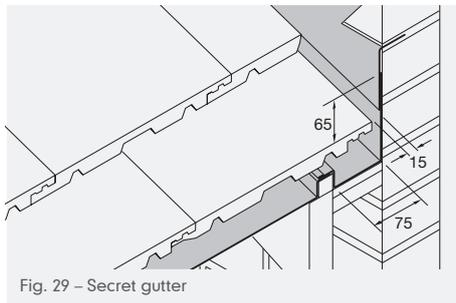

Fig. 29 – Secret gutter
- 11 Lay tiles to leave a gap of 15mm by the side of abutment (Figs. 29 and 30).